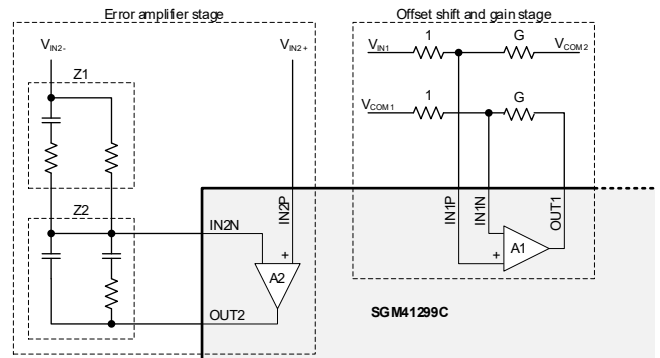

Figure 11. Using SGM41299C Amplifiers
Figure 11 shows an applicable circuit in which A2 is used to make an error amplifier with external compensation network Z1 and Z2, and A1 is used to make a gain (G) stage with level shifting from V_{COM1} at input side to V_{COM2} at output (OUT1). The temperature setting can be fed into either V_{IN2+} or V_{IN2-} , and the temperature sensor (for example NTC) can replace one of the four resistors.